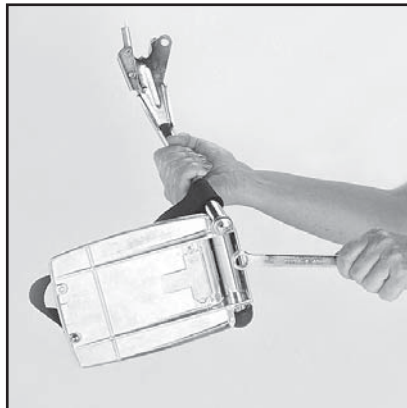

Figure 5E
3. If length adjustment is necessary, loosen the bolt at the base of one of the footrest stems by two complete turns, (1/2 inch wrench required). Tap the head of the bolt to loosen the inner tube from the outer tube (See Figure 5E below).
5. Repeat (3) and (4) for other footrest.